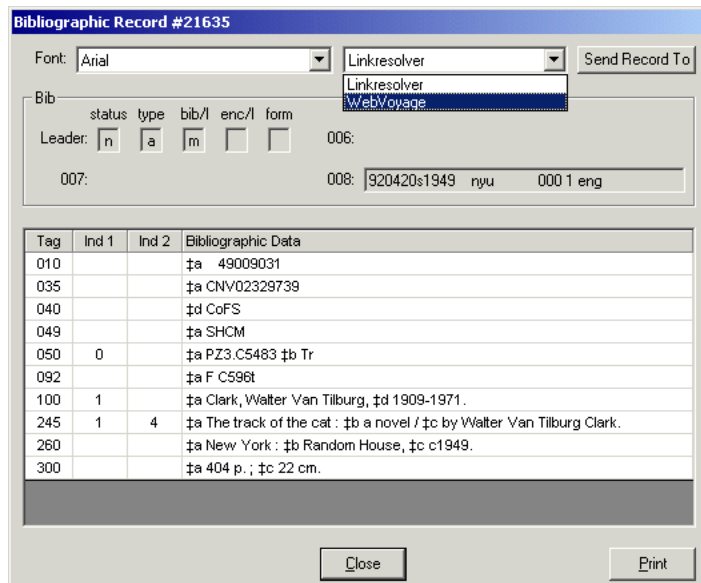

Figure 13-15. MARC view with drop-down of Web servers
1. From the standard MARC view, click the arrow in the drop-down list listing the Web servers that are configured to accept your http POST and highlight the correct Web server (see Figure 13-15).